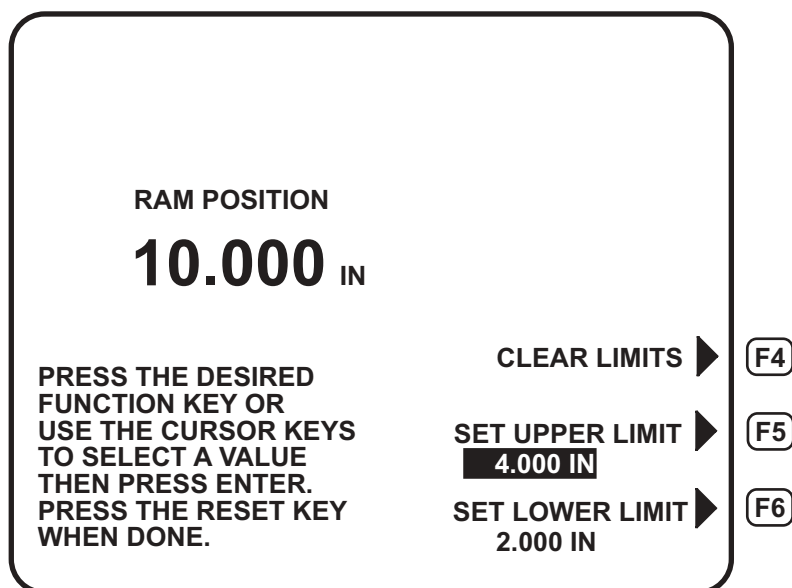

Figure 5-7. Ram Position Screen in Program Mode
2. You will need to clear all limits by pressing the F4 key (See Fig. 5-7 above). This will purge the system of all errant values.